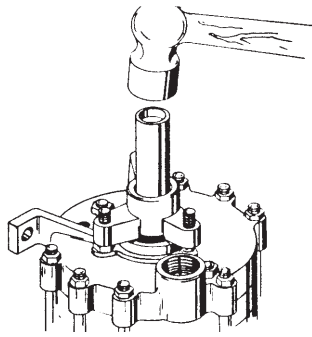

Figure 4-16
36. Place a metal support under the shaft opposite the extension. A 3/4" nut works well. The pump will be unstable in this position. It is well to have necessary tools at an easy reach. Install another (#6B) O-ring as before. Drive the bearing arm assembly onto the shaft until the bearing rests against the shoulder provided. (refer to figure 4-16) Driving should be done with a sleeve contacting the inner race only. Secure with three nuts (#20), finger tight.